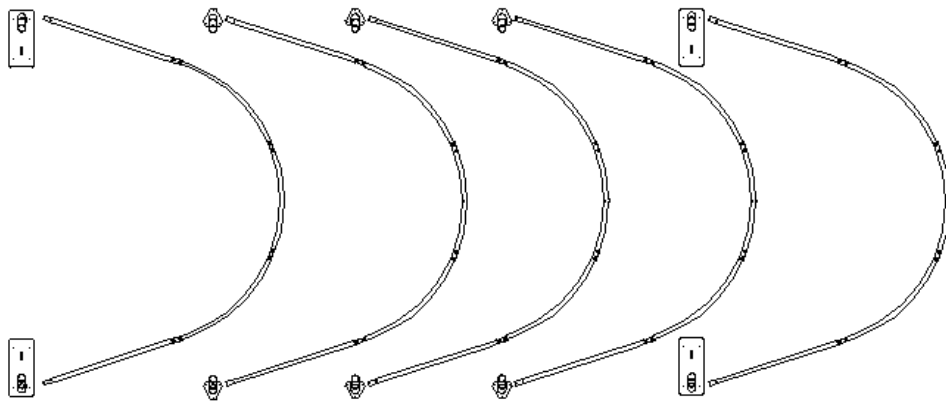

Figure 3
Lay down all (5) trusses on the ground as Figure 3 when the assembly is all completed and before moving to next step.